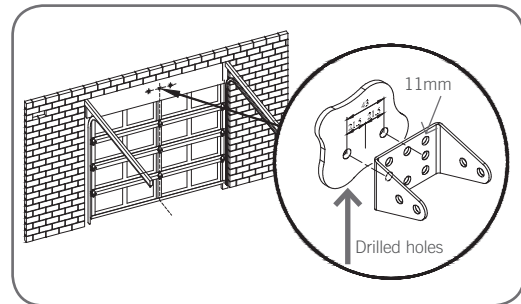

Fig. 14
- Determine the centre point on the wall above and on top of the door. Then draw two (2) lines extending 21.5mm from each side of the centre point.(Fig. 14)
- Centre the bracket over the intersection of these two lines. Mark centres for at least two holes (Fig. 14).